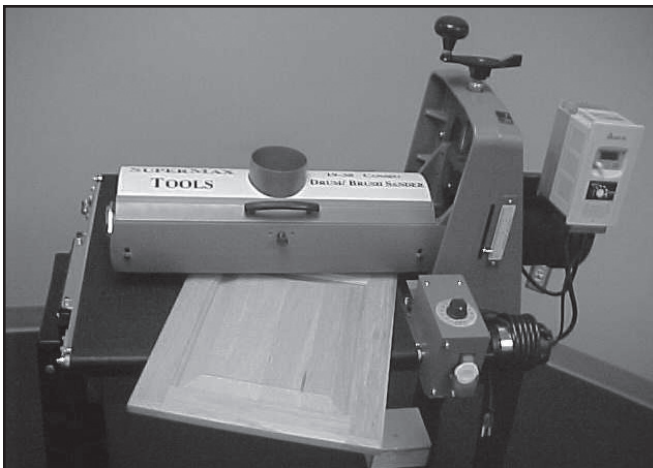

Fig. 13 Offset stock feeding angle.
**Stock Feeding Angle.** Some pieces, because of their dimensions, will need to be fed into the machine at a 90° angle (perpendicular to the brush). However, even a slight offset angle of the stock can provide for more effective sanding/brushing on some stock (Fig. 13).